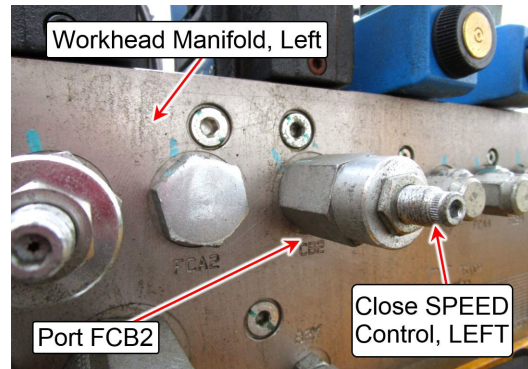
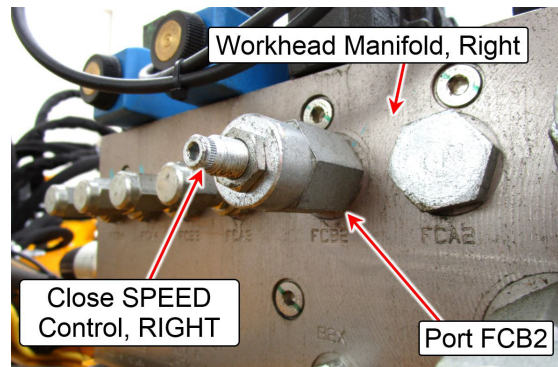

Figure 6-20: Left Speed Control
Figure 6-21: Right Speed Control
- The Left Speed control is on the Left Manifold and the Right Speed control is on the Right Manifold. See Figure 6-20 & Figure 6-21.